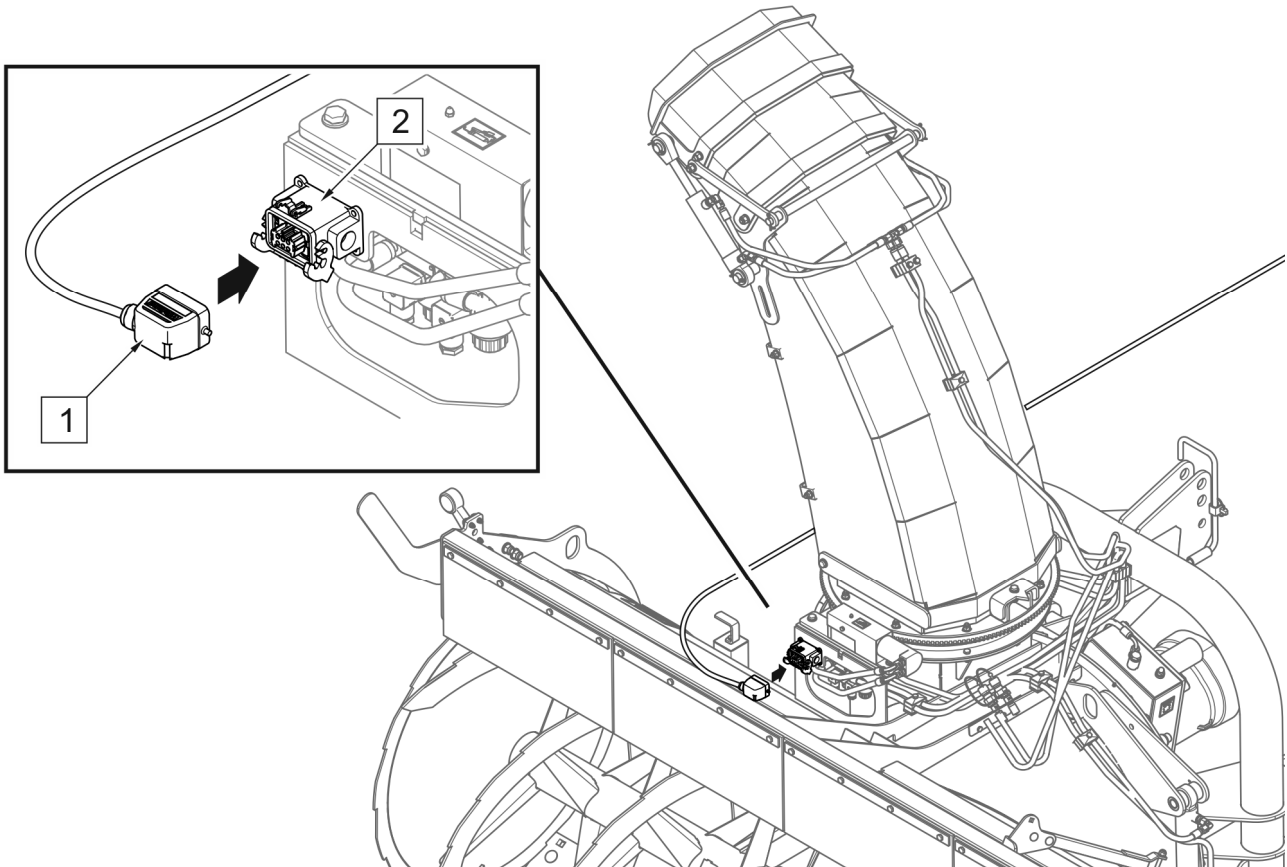

FIGURE 4.5 Connecting the control panel wiring harness (machine mounted on three-
(1) - control panel wiring harness plug; (2) - socket
Connect the control panel wiring harness (1) to the socket (2) located in front of the discharge chute (FIGURE 4.5)